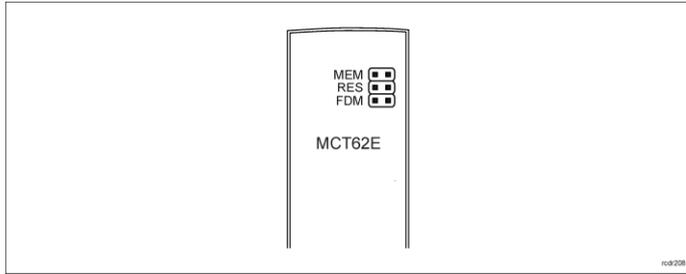

Fig. 3 Service contacts
Note: Remote configuration of device from VISO v2 software is possible only if jumper is placed on MEM contacts (fig. 3). If the jumper is removed then such configuration is blocked. In case of factory new device, jumper is placed on MEM contacts.
In RACS 5 v2 system the reader can be installed at site without previous configuration. According to AN006 application note, its address and other settings can be configured from VISO v2 management software and during such configuration the access to its service contacts (fig. 3) is not required.
2. Remove jumper from MEM contacts (fig. 3) if it is placed there.
2. Place jumper on FDM contacts (fig. 3).